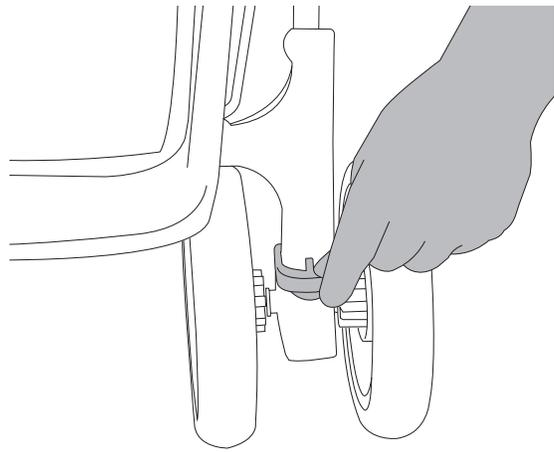

Figure 5
- Place one rear wheel over one end of the axle. See Figure 5.
- Pull up on the lever to engage the small tab on the lever with the slot in the plastic frame sleeve. The lever can be either facing forward or rearward to lock the wheels. See Figure 5.